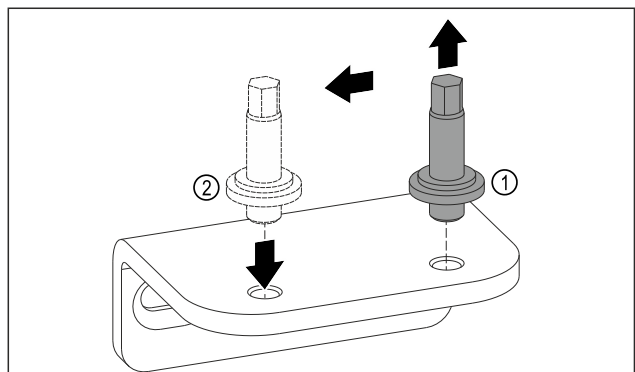

Fig. 11
- ▶ Unscrew the bolt of the lower swap bearing block using an SW5 external hexagon wrench. Fig. 11 (1)
- ▶ Insert the bolt on the opposite side. Fig. 11 (2)